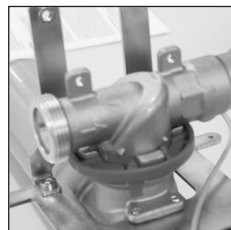

Fig. 3
- Set the device down with its back facing up on a soft base (see Fig. 3).